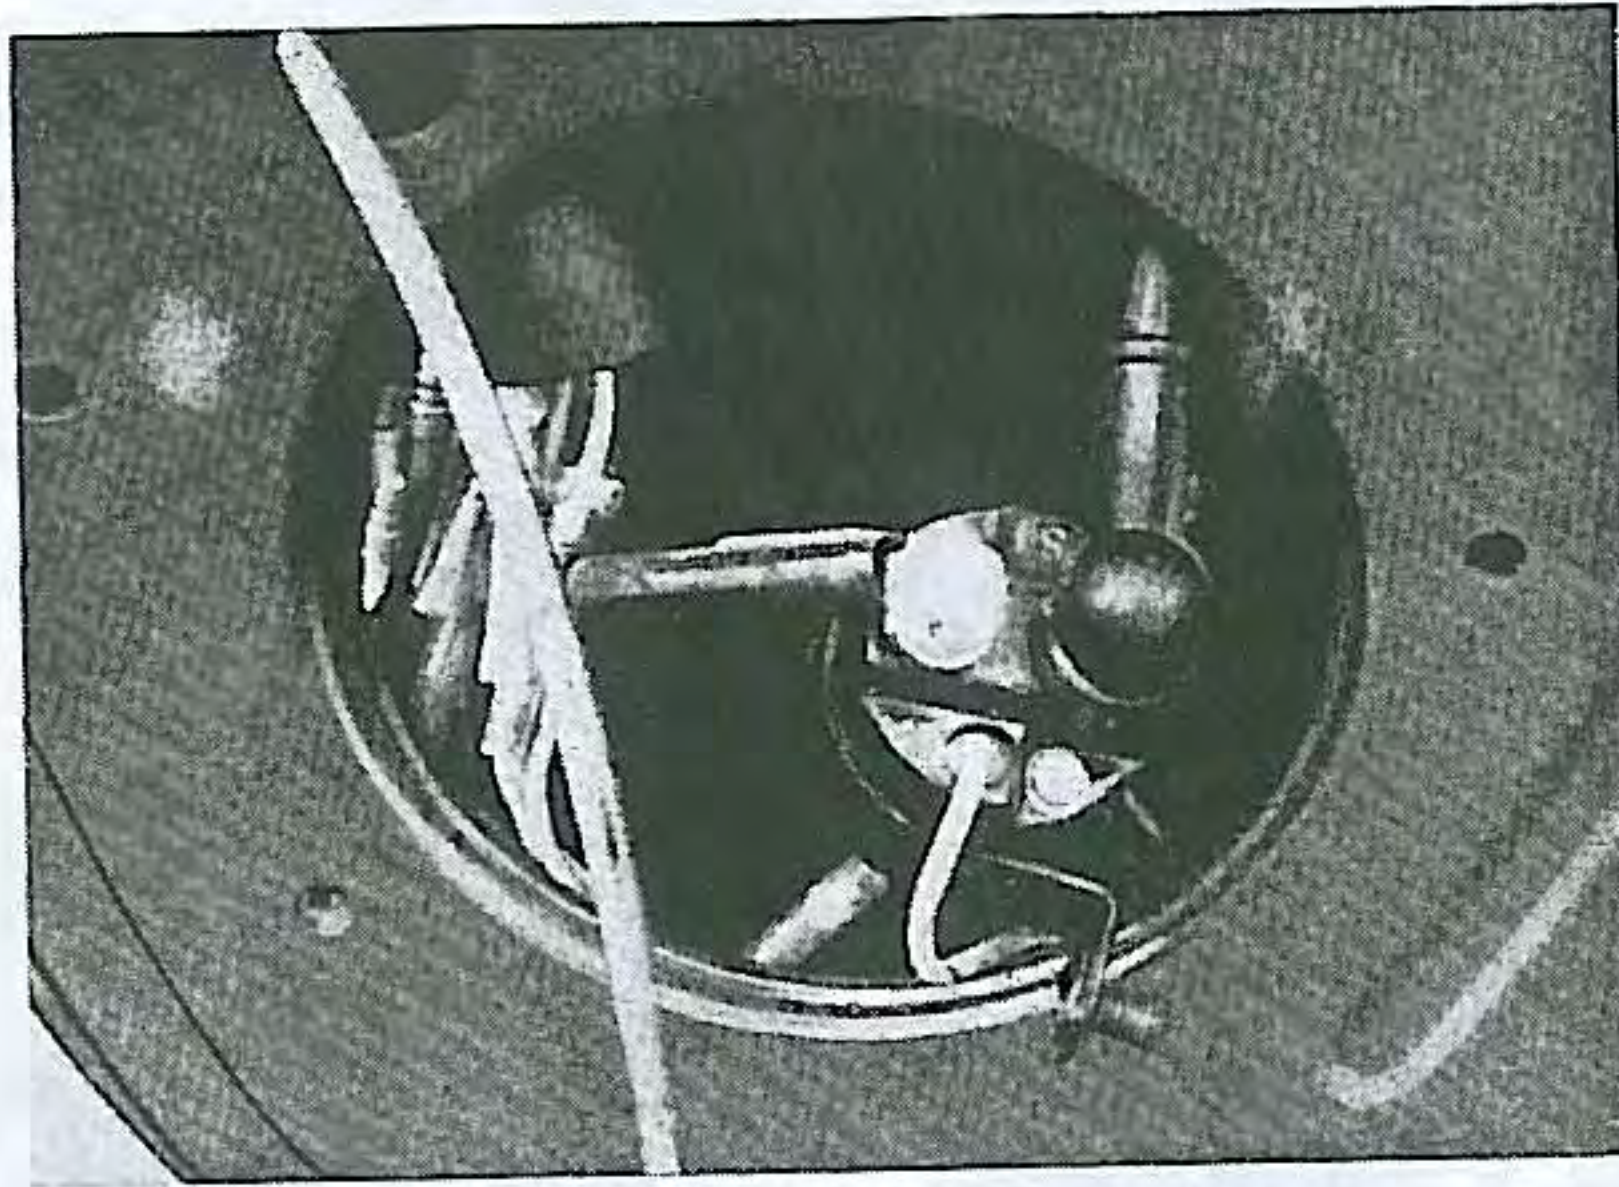
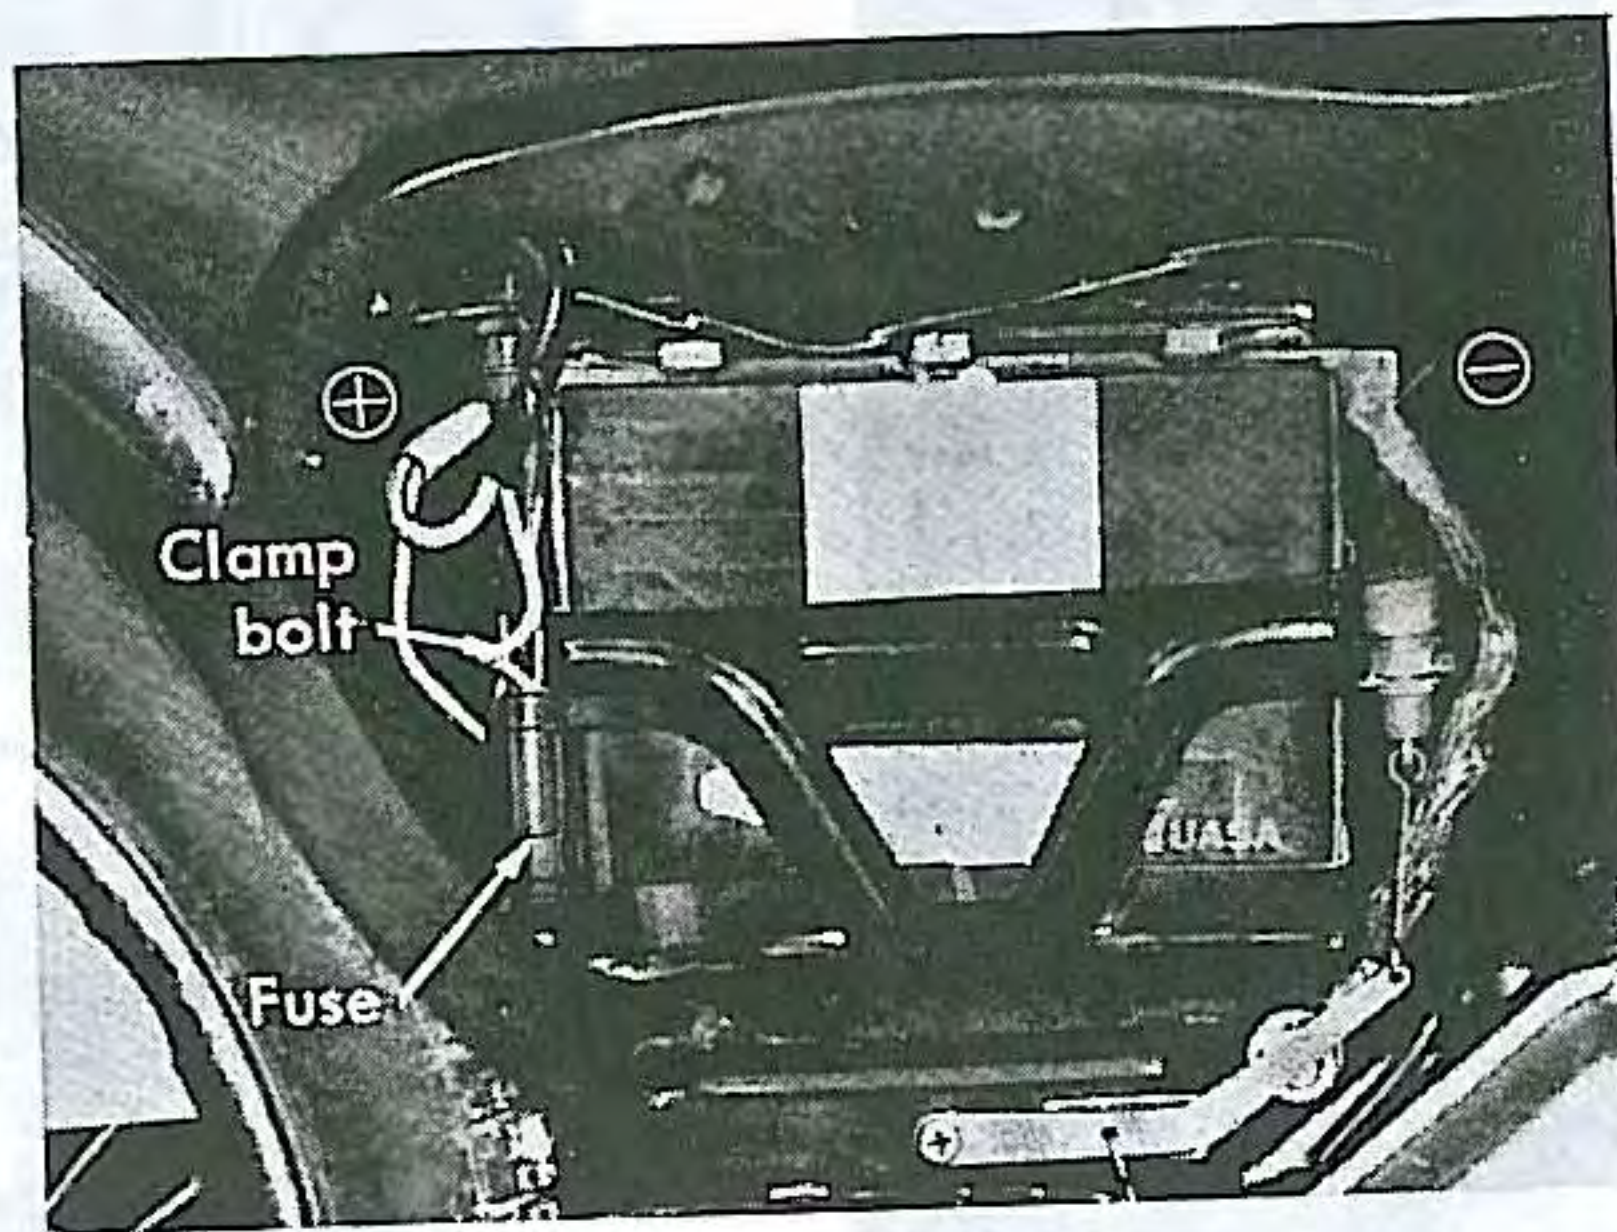

Fig. 16. Removal of starter switch
Fig. 17. Location of battery
- (8) On the right side of the engine remove the electric starter switch located on the right side of the frame, and disconnect the starter motor cable. (Fig. 16) Previous to this procedure, remove the battery by unscrewing the clamp bolt and terminals of battery. (Fig. 17).